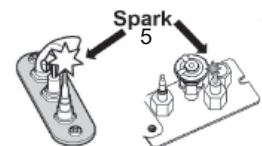

Fig 3
2. **TO CLEAR ANY GAS**, turn main valve off by pressing the (⏻) button on remote handset (1). Wait five (5) minutes to clear out any gas, then smell for gas, including near the floor. If you smell gas, **STOP!** follow "B" in the safety information above on this label. If you don't smell gas, go to the next step.
3. **AUTOMATIC IGNITION:** MAN-knob (2) in ON position. Ensure Flame Adjustment knob (3) is set to lowest setting (Fig. 1). Locate the pilot (Fig. 3.) inside the firebox.
With the window off, locate the pilot (Fig. 3) inside the firebox. Set Flame Adjustment knob (3) to the lowest setting. Push down the metallic core (4) with a pen or similar instrument; this will establish the pilot gas flow. Light gas at the pilot (5) with a match. Continue holding down metal core (4) for about 10 seconds; after release, pilot should remain lit. If the pilot will not stay lit after several tries, turn the gas control knob (3) to OFF and call your local service technician or gas supplier. Reinstall the window and set the MAN-knob (2) to ON; turn Flame Adjustment knob (3) up or down manually or use the (⬆️) and (⬇️) buttons on the remote control handset to adjust the flame height.